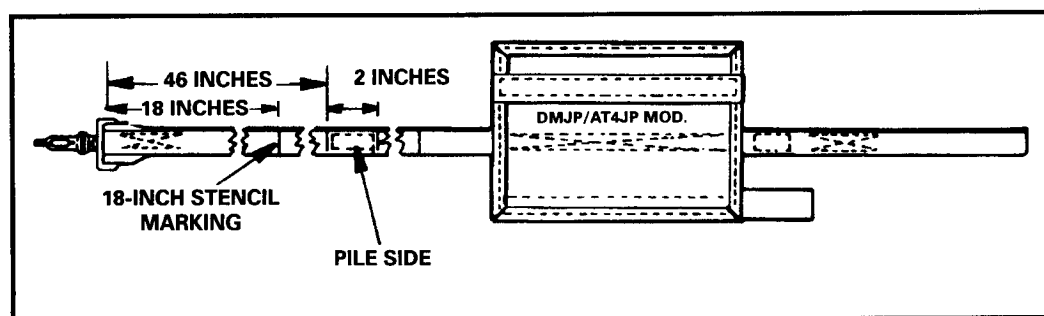

Figure 12-4. Method for attaching HPT and stencil markings.
(1) Stitching will conform to FED-STD-751, Type 301, 7 to 9 stitches per inch.
(2) Ends of stitching will be over-stitched not less than 1/2 inch.
c. Modification Procedure (Figure 12-4).
(1) Carefully cut the stitching that secures the 2-inch-long HPT located about 11 3/4 inches from the ejector snap end and remove cut stitching.
(2) Cut a 2-inch length of HPT. (If the previously removed HPT is undamaged, it may be used in lieu of replacement tape.)
(3) Place marks 46 and 48 inches from the folded web edge ejector snap end on the same side of the removed 2-inch HPT of the 1-inch-wide lowering line.
(4) With pile side facing up, position the 2-inch HPT between the markings and stitch with a single box stitch formation.